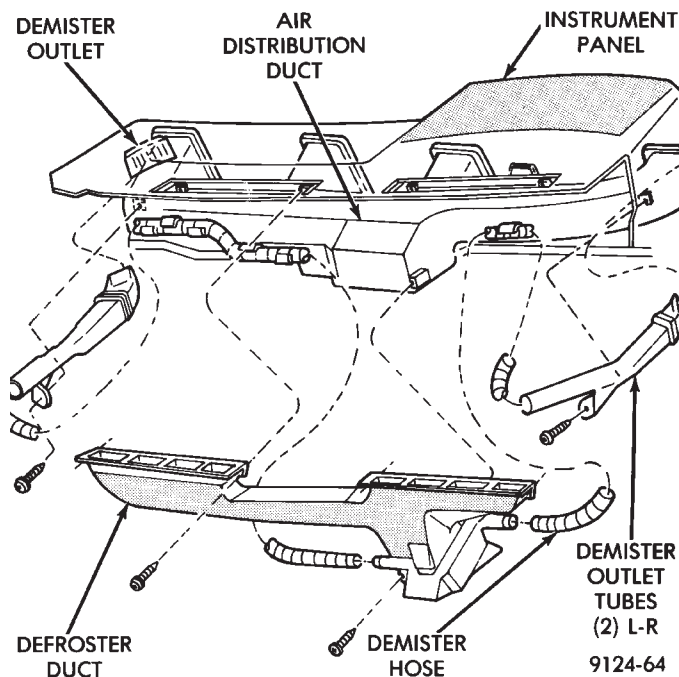

Fig. 2 Defroster Ducts/Demister Ducts and Hoses
- (1) Instrument panel assembly must be removed. Refer to group 8E, Instrument Panel and Gauges.
- (2) After instrument panel has been removed, separate the defroster/demister ducts from the air distribution duct.
- (3) Remove the demister tubes and hoses (Fig. 2).